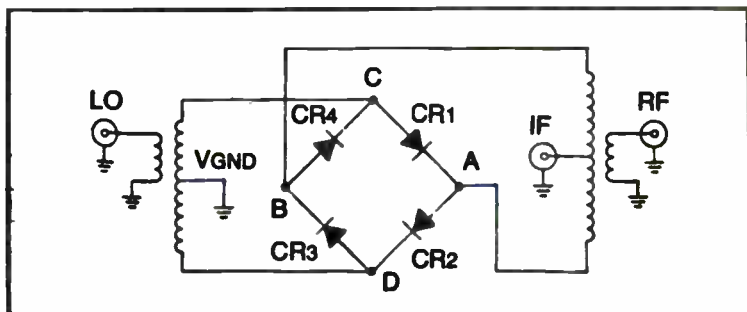

Fig. 6-13. Double-balanced mixer.
**Double-Balanced Mixers Offer Improved Isolation.** A typical schematic for a double-balanced mixer is shown in Fig. 6-13. Let's now examine how balance is achieved. If  $CR_1$  and  $CR_2$  and the LO transformer are symmetrical, the voltage at point A is the same as the center-tap of the transformer, or ground. Similarly, if  $CR_3$  is equal to  $CR_4$ , the voltage at B is the same as  $V_{GND}$ . Therefore, there is no voltage across A and B and no voltage across the rf or i-f ports. This illustrates how isolation is obtained between LO and rf and i-f ports.